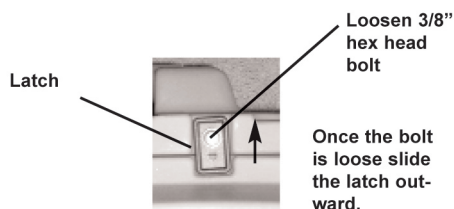

FIGURE 2
1. With a 3/8" wrench, loosen the 8 latches holding the inlet panel in place. See Figure 2.